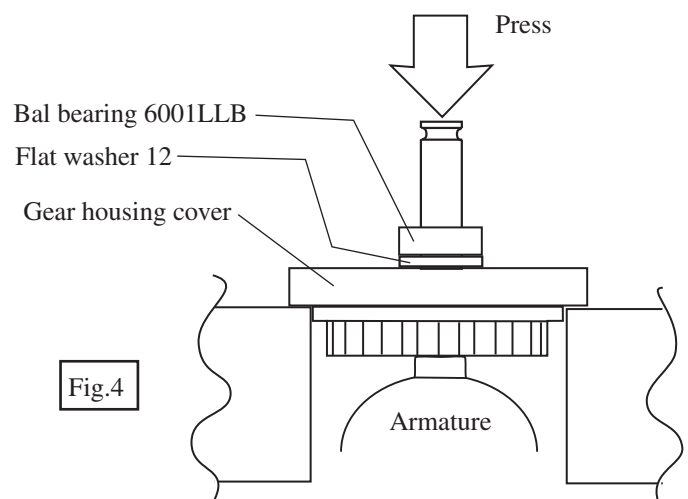

Fig.4
- 4) Remove armature from gear housing cover by pressing the armature shaft with arbor press as illustrated in Fig.4.